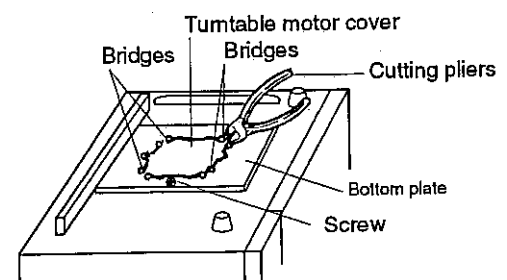

Figure C-3(a). Turntable Motor Cover Removal
2. Remove the single (1) screw on the bottom plate as shown in Figure C-3 (a).